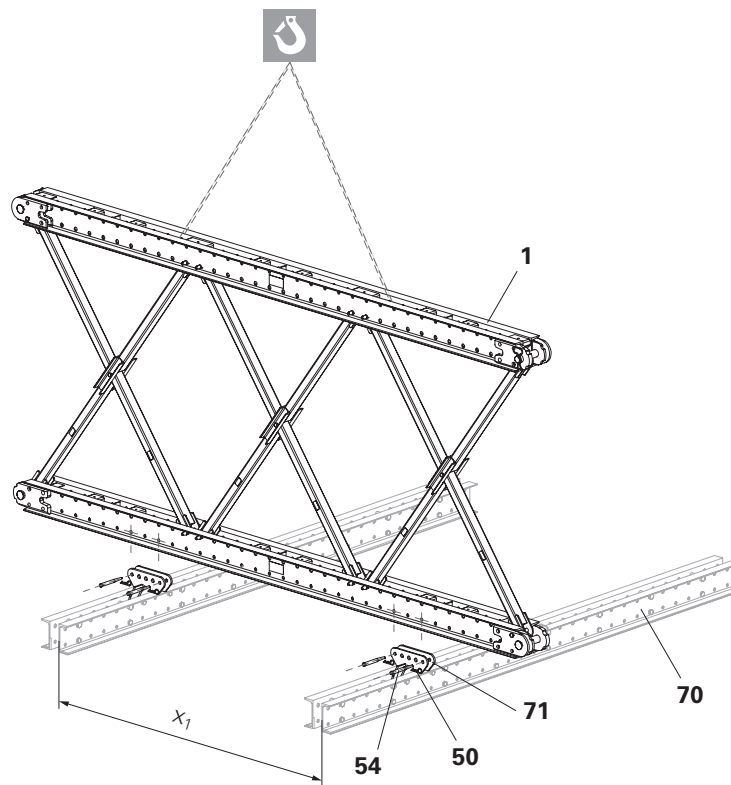

Fig. B1.04
- The distance x_1 between the climbing rails is dependent on the component. (Fig. B1.04)
(Fig. B1.04)